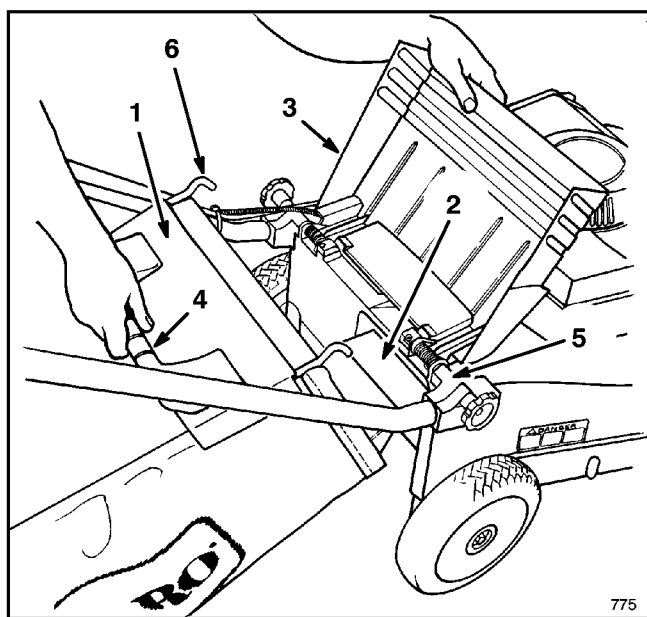
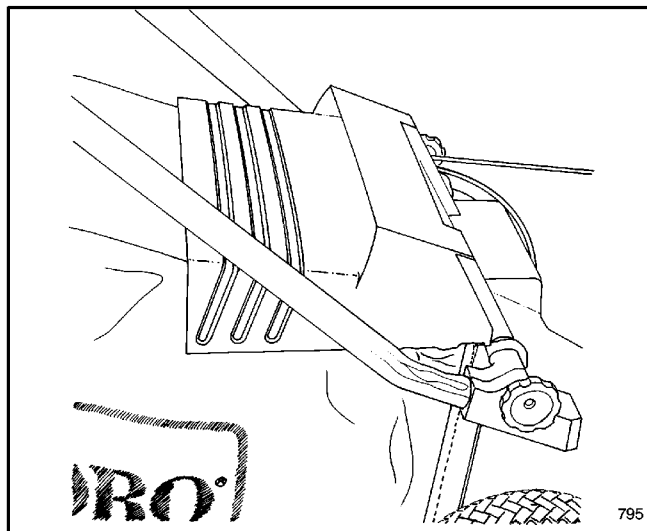

Figure 14
Figure 15
2. **INSTALLING BAG**—Raise discharge door, slide bag ramp attached to bag into discharge opening, and hook bag frame onto mounting bracket (Fig. 14). Allow discharge door to rest on top of bag (Fig. 15).